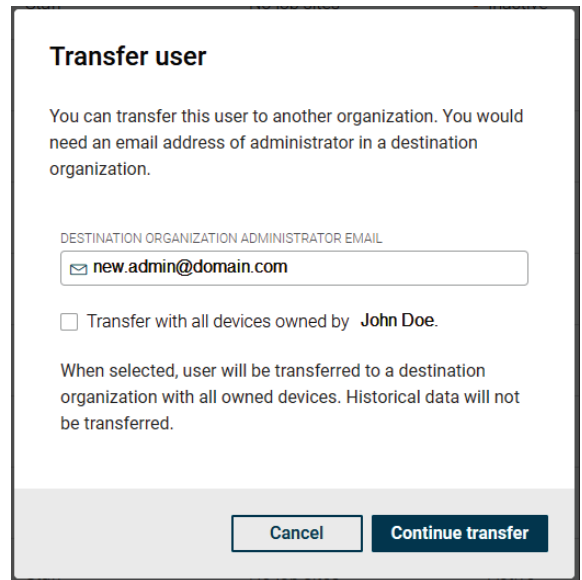

Figure 63. Continue Transfer
6. After typing a valid administrator organization e-mail, an optional box will appear on the window “Transfer with all devices owned by XXX”. Check it if desired. Click on “Continue transfer”. See **Figure 63**.